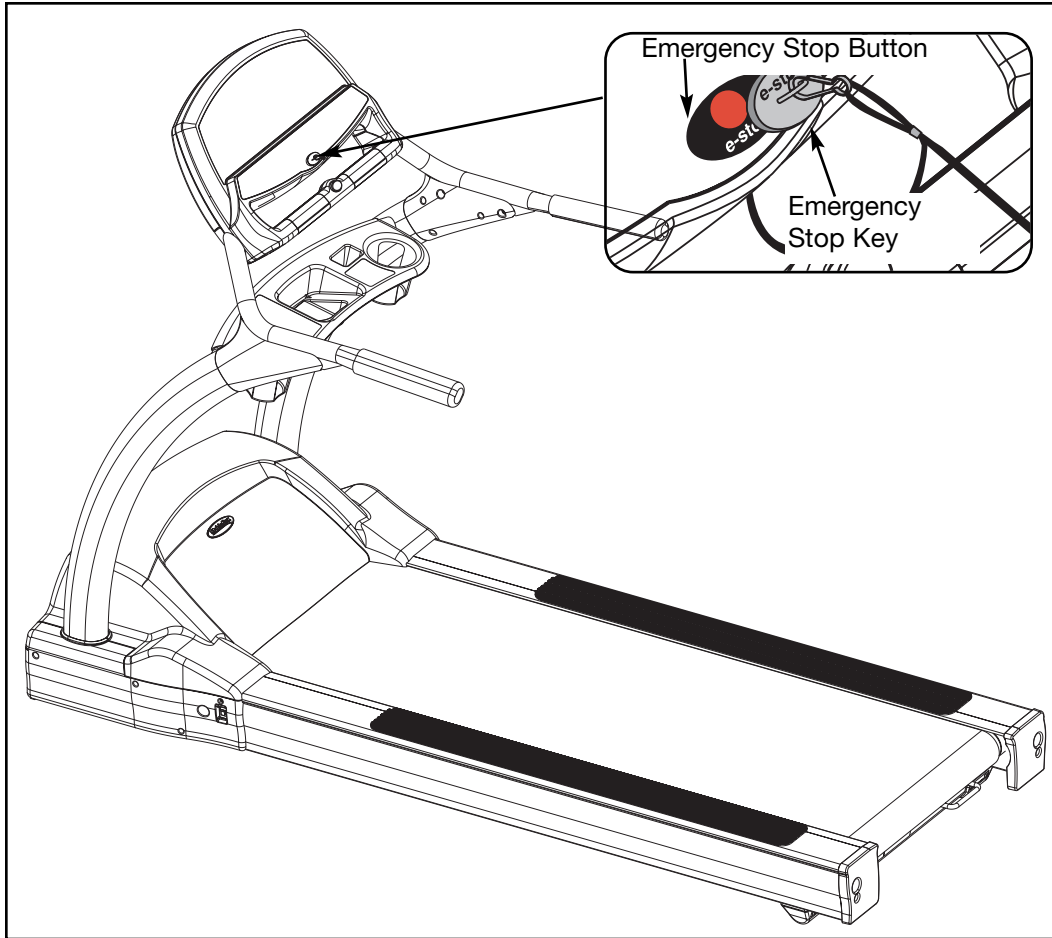

Figure 14
- A.** Confirm that the emergency stop key is in place over the e-stop button. See Figure 14.